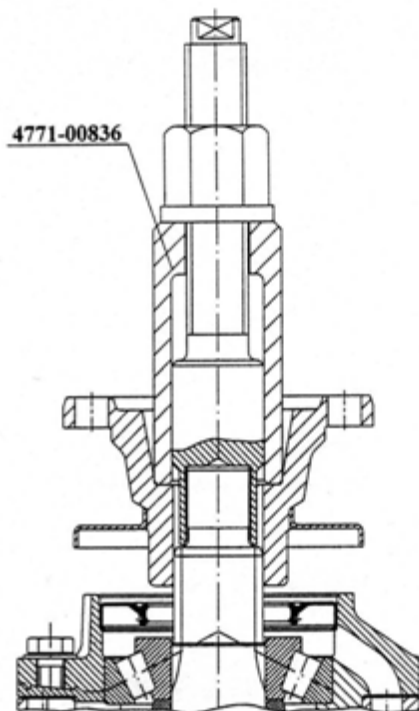

Fig. 5.: PRESSING ON THE COMPANION FLANGE 004.10-13
By means of the tool shown press the companion flange (3) to the drive pinion splines to bottom out (Fig. 5.).